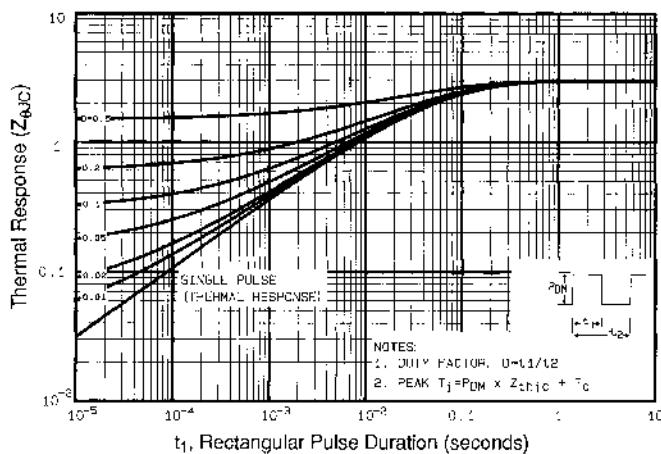

Fig 11. Maximum Effective Transient Thermal Impedance, Junction-to-Case
① Repetitive rating; pulse width limited by max. junction temperature (See Figure 11)
② $I_{SD}\leq 2.4\text{A}$, $di/dt\leq 50\text{A}/\mu\text{s}$, $V_{DD}\leq V_{(BR)DSS}$, $T_J\leq 150^\circ\text{C}$